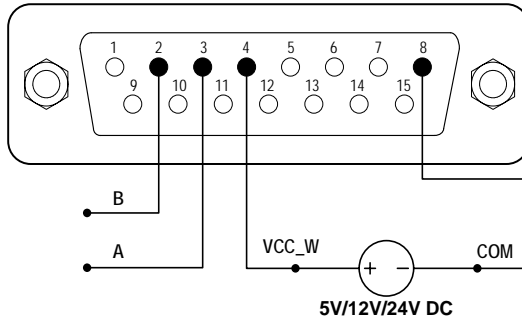
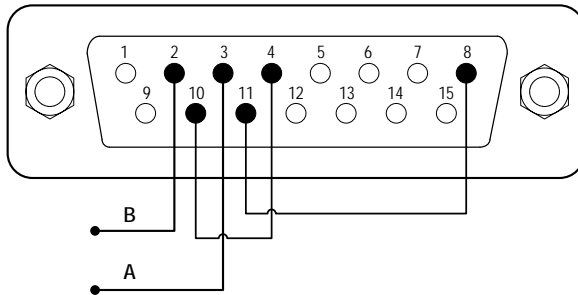

Figure 20. RS485 MODBUS Wiring with External Power Source
Figure 21. RS485 MODBUS Wiring with Internal 12V Power Source
- 1) When the power is off, wire the DB15 connector as shown in Figure 20 or Figure 21, then connect it to the DB15 port on the rear of the pump. An external DC power source is recommended to avoid electrical interference.